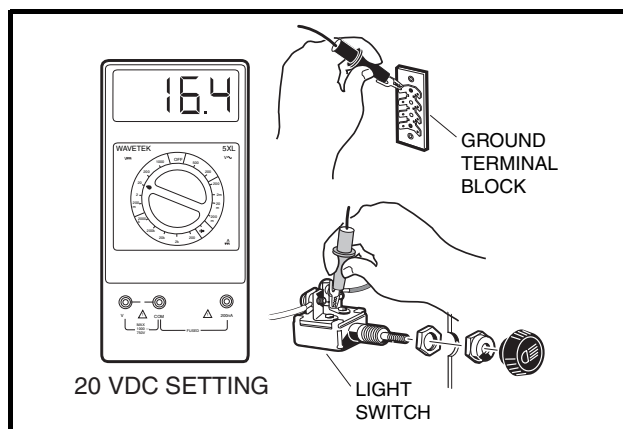

Figure 11-32 Light Switch Test
5. Using a multimeter set to 20 volts DC, place alligator clips on multimeter probes. Connect the black (–) probe to the terminal block under the front body (**Figure 11-32, Page 11-32**).